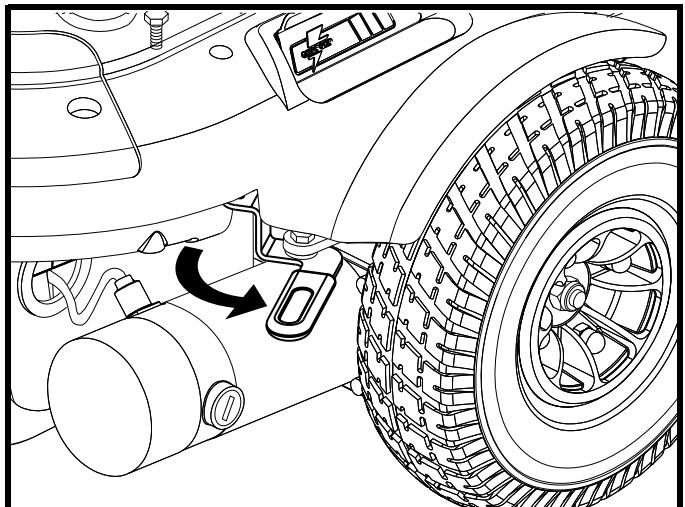

Figure 9. Freewheel Mode (Drive Disengaged)
3. Pull both levers outward to disengage the drive motors (freewheel mode). See **figure 9**.